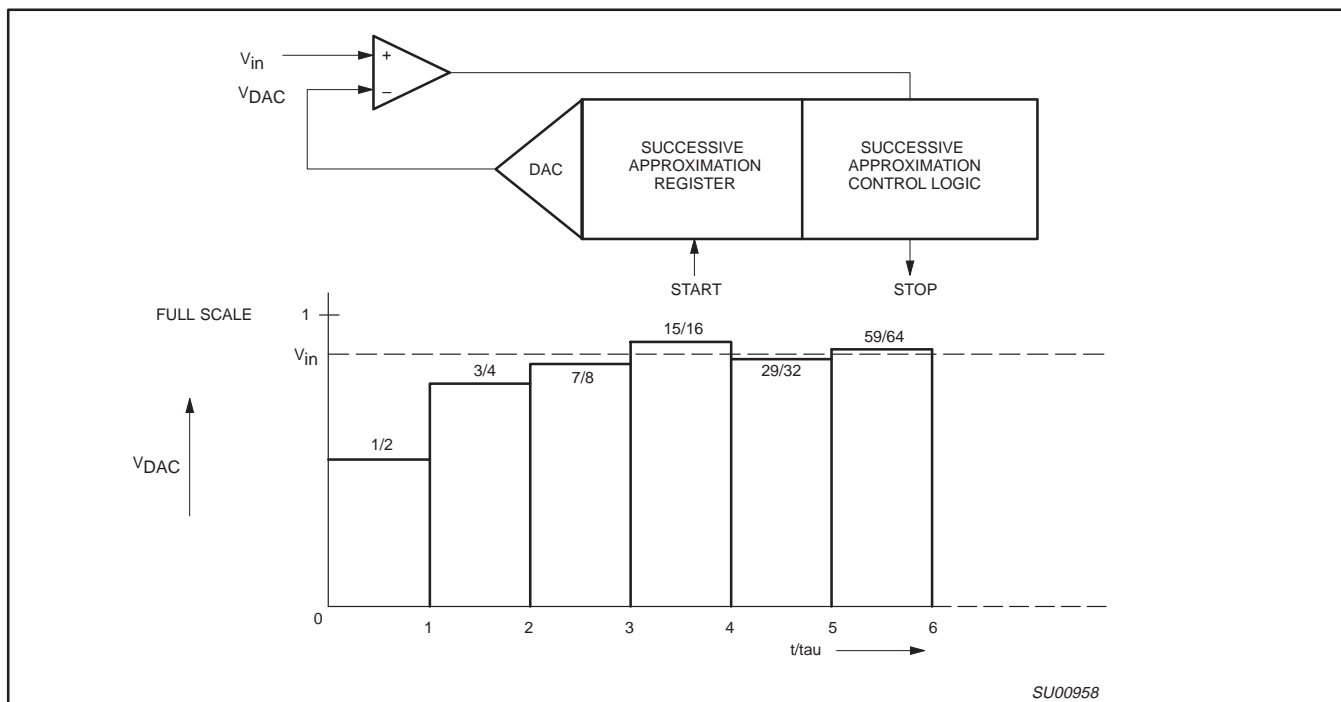

Figure 20. Successive Approximation ADC
10-Bit Analog-to-Digital Conversion: Figure 20 shows the elements of a successive approximation (SA) ADC. The ADC contains a DAC which converts the contents of a successive approximation register to a voltage (VDAC) which is compared to the analog input voltage (V_{in}). The output of the comparator is fed to the successive approximation control logic which controls the successive approximation register. A conversion is initiated by setting ADSC in the ADCON register. ADSC can be set by software only or by either hardware or software.